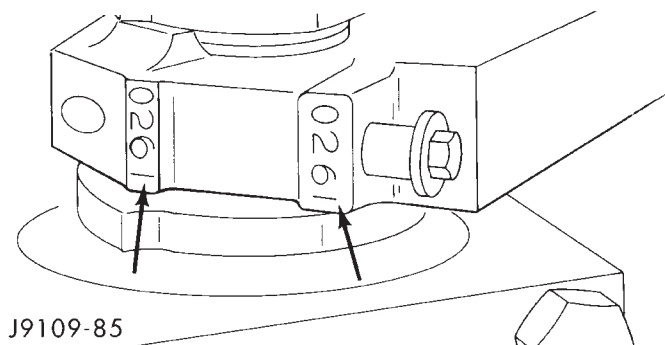

Fig. 79 Correct Rod Cap Installation
(5) Be sure the **FRONT** marking on the piston and the numbers on the rod and cap are oriented as illustrated.
(6) Position the piston and rod assembly into the cylinder bore with the word **FRONT** on the piston towards the front of the cylinder block. Use care when you install the piston and connecting rod so the cylinder bore is not damaged.
(7) Push the piston into the bore until the top of the piston is approximately 50 mm (2 inch) below the top of the block. Carefully pull the connecting rod onto the crankshaft journal.
(8) Use clean engine oil to lubricate the threads and under the heads of the connecting rod bolts.
(9) The 4 digit number stamped on the rod cap at the parting line must match and be installed towards the oil cooler side of the engine (Fig. 79).